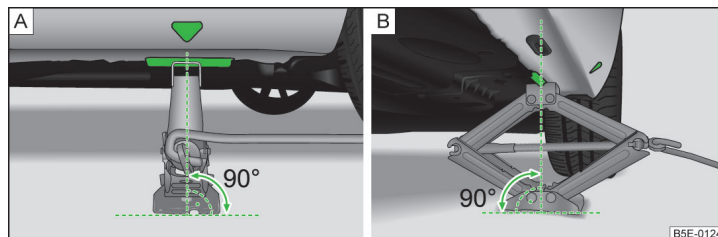

Fig. 92 **Attach lifting jack**
- › Position the base plate of the jack with its full area resting on level ground and ensure that the jack will fit in the jacking point when raised » [fig. 92 - \[A\]](#).
- › Use the crank to raise the jack until its pawl covers the jacking point» [fig. 92 - \[B\]](#).